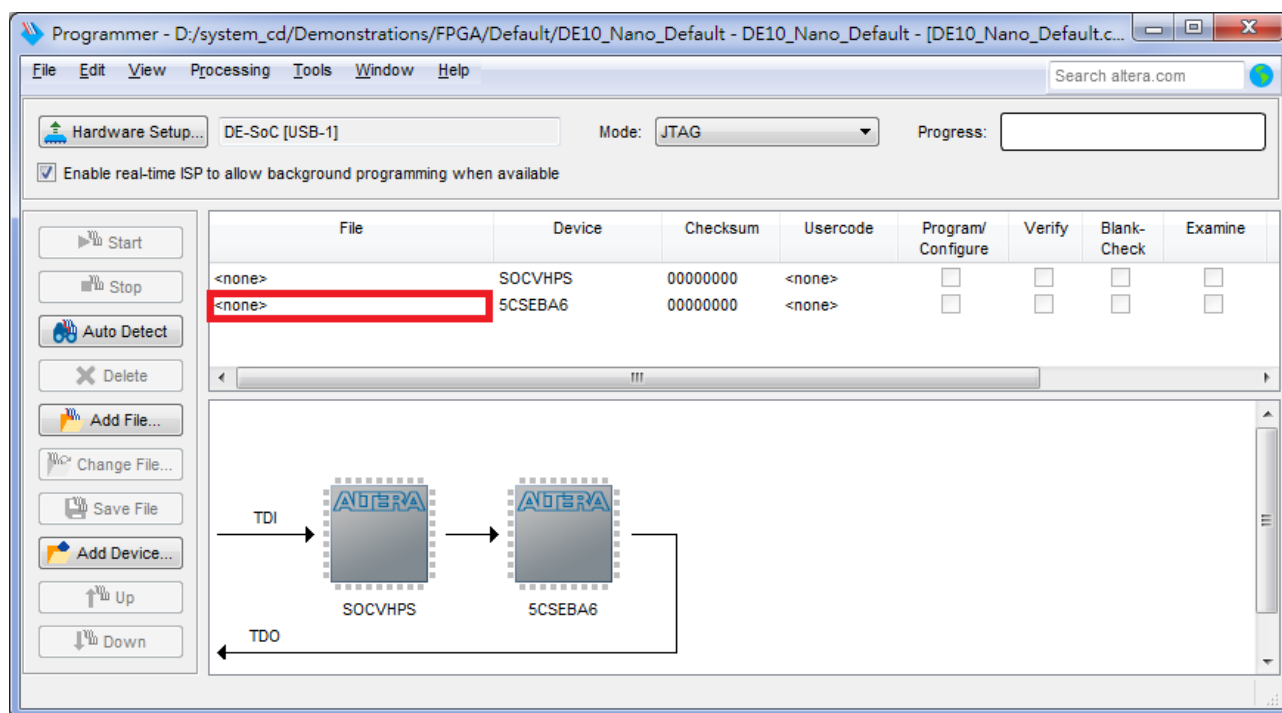

Figure 8-7 Two devices are detected in the Quartus II Programmer
3. Click **Auto Detect** and then select the correct device (5CSEBA6). Both FPGA device and HPS should be detected, as shown in **Figure 8-7**.
4. Double click the red rectangle region shown in **Figure 8-7** and the **Select New Programming File** page will appear. Select the .jic file to be programmed.
3. Click **Auto Detect**, and then select correct device, both FPGA device and HPS will be detected. (See **Figure 8-7**)
4. Double click the red rectangle region shown in **Figure 8-7**, and the **Select New Programming File** page will appear. Select the correct .jic file.